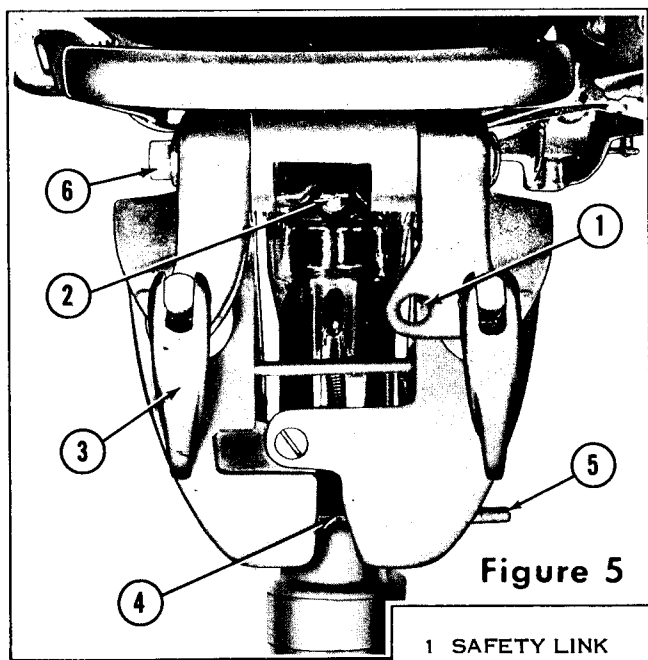

Figure 5
The use of a safety chain or rope attached to motor stern bracket safety chain link (item 1, Figure 5) and boat will guard against loss of motor overboard. Holes are provided in thumb screw handles through which a padlock may be applied to lock the motor on the boat.
To accomplish this adjustment, tilt the motor slightly (gear shift lever must be in FORWARD or NEUTRAL), then lift up on angle adjustment lever (see item 5, Figure 5) and move it ahead or back in the slots in the stern bracket so that motor is in a vertical position when lower unit rests against the lever. On some boats it may be necessary to correct angle adjustment to maintain motor in a vertical position when changing load from one to more passengers. Always try to arrange load so boat runs on an even keel.
Always retard motor speed to within "shifting range" as indicated on throttle control plate before shifting. A special reverse lock (item 4, Figure 5) built into the swivel bracket locks the motor against tilting when in reverse. Use extra care when running in reverse to avoid striking any obstruction and damaging lower unit parts. The tilting feature functions only in FORWARD or NEUTRAL gear shift position.
The co-pilot permits the motor to maintain a set course without holding steering handle. It can be adjusted by tightening or loosening the screw, located in the center of the pivot bearing (item 2, Figure 5) to the desired tension.
Proper tilting friction is set at factory, but through continued use, friction may have to be adjusted. To adjust, loosen or draw up on tilting bolt nut (item 6, Figure 5) as required, using a wrench. Tension of tilt need not be too great, but just sufficient to maintain the motor in any position of tilt.